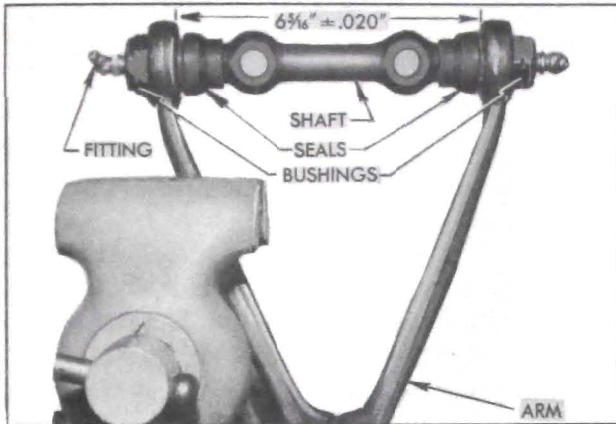

Figure 7-10—Upper Arm, Shaft, Bushings and Seals
4. Before installing any new parts, check the distance between inner end of the upper arm. The normal dimension is $6\frac{5}{16}'' \pm .020''$. See figure 7-10.